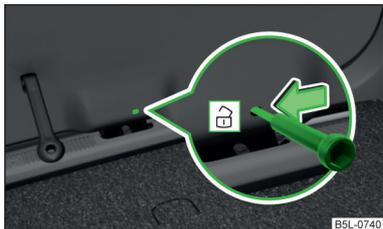

Fig. 189
- Insert a screwdriver or similar tool into the opening in the trim » Fig. 189 as far as the stop.